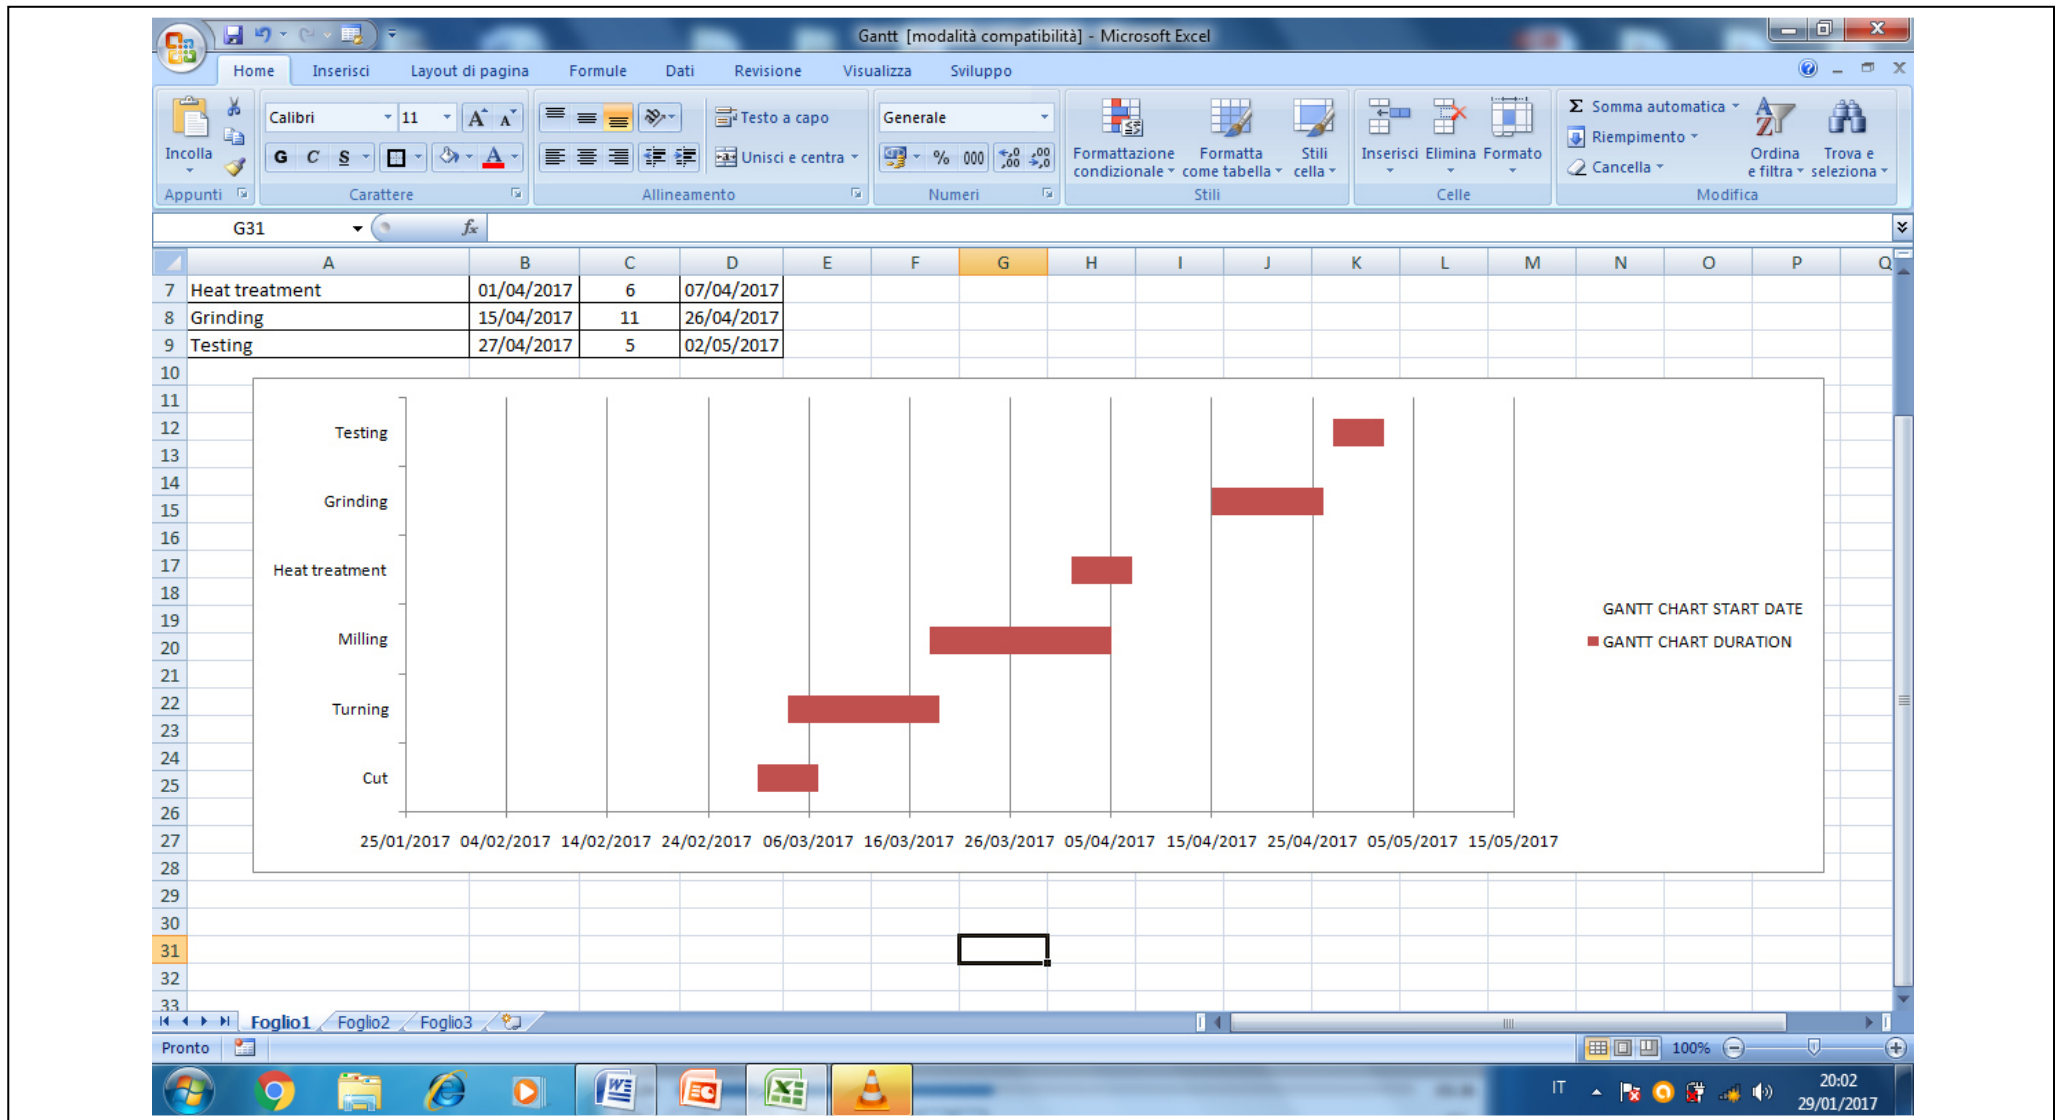

Fig.10- Gantt chart with inverted series
9) The result is shown in Fig. 10, in which the manufacturing series is the opposite we were expecting.